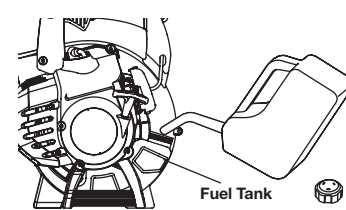

Fig. 7
- Remove the fuel cap (Fig. 7).